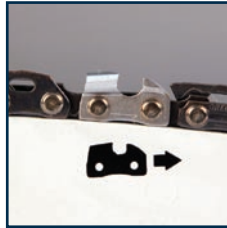

Fig 1
2. Place the chain (5) in the groove of the bar (6). Pay attention to the correct running direction. As shown by the running direction symbol.
3. Place the chain links around the chain wheel (9) and put the bar on such that the two locating pegs fit into the slotted hole of the bar.
4. Prior to fitting the cover (11) it is important to set the chain adjusting cam. To do this fully depress the chain clamp/lock knob and rotate until the cam is aligned with the arrow as pictures in Fig 1.
5. To fit the cover (15) insert the back locating hook into the slot provided near the oil indicator and lower the cover over the bar ensuring the clamp bolt of the cover passes through the centre of the bar adjustment block (10) and rotate the clamp/lock knob until it just starts to become tight.